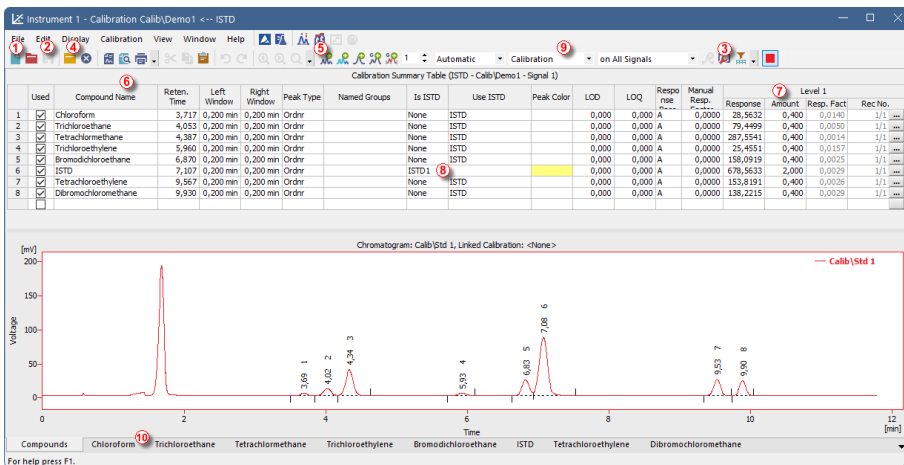

Fig. 16: The Calibration window - loaded standard
- Use the **Open Standard** icon (yellow) (4) to open the **STD 1.PRM** data file. The lower part of the **Calibration** window now displays the chromatogram of the standard.
- Use the **Add All** icon (blue) (5) to add all identified peaks to the Calibration Summary Table. The Table appears in the **Calibration** window, ready to be completed as shown on **Fig. 16** on pg. 28.
- As demonstrated in the Calibration Summary Table and the Chromatogram, individual peaks are now identified according to their retention times only. To label the peaks, click and edit the fields in the **Compound Name** column (6) to the names shown on **Fig. 16** on pg. 28.
- Fill the **Amount** column (7) with the concentration of the particular compounds. In this standard mixture, all compounds except for the peak number 6 (ISTD) have the amount of **0.4**.